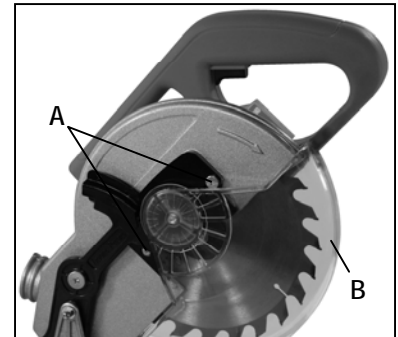

Figure 1
Disconnect the power from the power source. Remove the 2 screws from the guard mounting plate (A, Figure 1), and then remove the retractable safety guard (B). Press the blade-locking lever and undo the blade-retaining bolt.